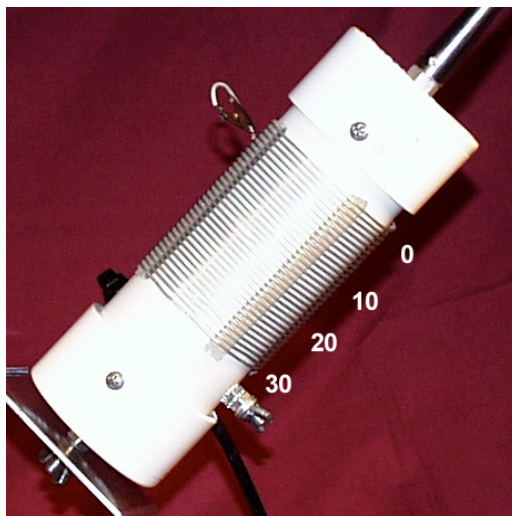

Figure 2
- [ ] 1. Begin by placing the tap on turn 0 (Figure 2) which will short the entire coil. The tap should only be in contact with one coil at a time.